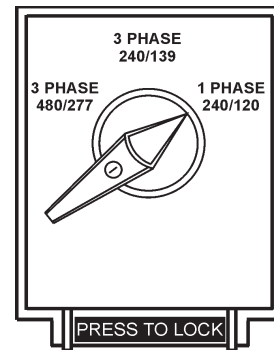

**Figure 26. UVWO Terminal Lugs
2. Connect the load wires to the UVWO terminals as shown in Figure 26.